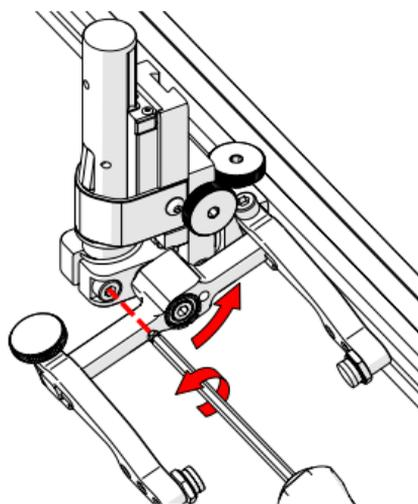

Fig. 74 - Loosen 3 mm screw
2. Using the supplied 3 mm hex driver loosen the transverse adjustment screw (Fig. 74) and rotate the yoke about the vertical shaft achieving the desired angle.